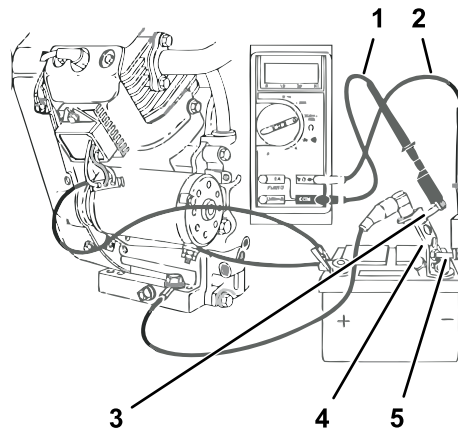

Figure 107
3. Insert red test lead into V Ω receptacle of the meter. Connect the other end of the red test lead to the post terminal of the shunt (Figure 107).